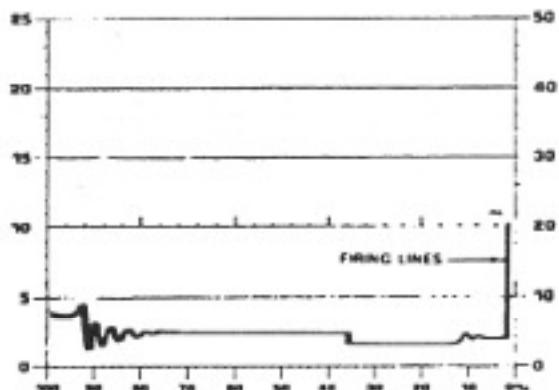

FIGURE 21. Primary Superimposed Pattern.
- Press this key to display a SUPERIMPOSED pattern, which places all the cylinder waveforms one top of the other. By pressing the appropriate key, a secondary or primary SUPERIMPOSED pattern may be viewed on the scope. Figure 21 and 22 show examples of these patterns.